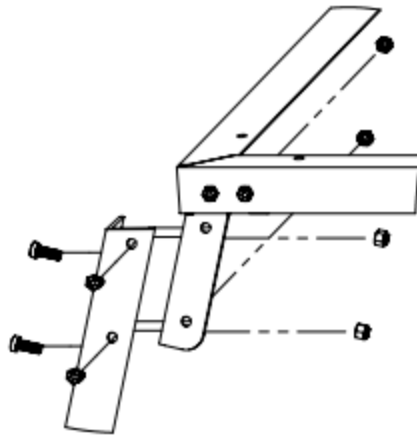

Fig 2
3. Attach 4 legs to the leg anchors on the base with 4 - 3/8 x 1" bolts & 4 - 3/8" nylon lock nuts for each. Repeat this on all four legs. Do not tighten these at this time. (Fig 2)